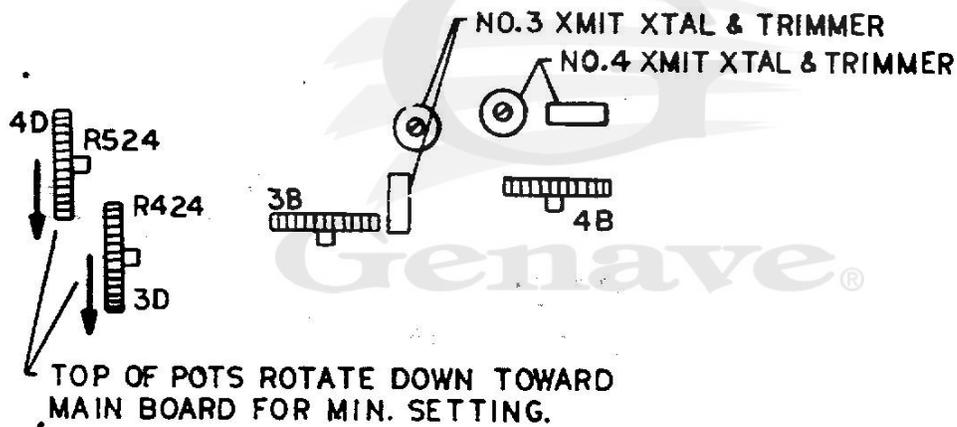
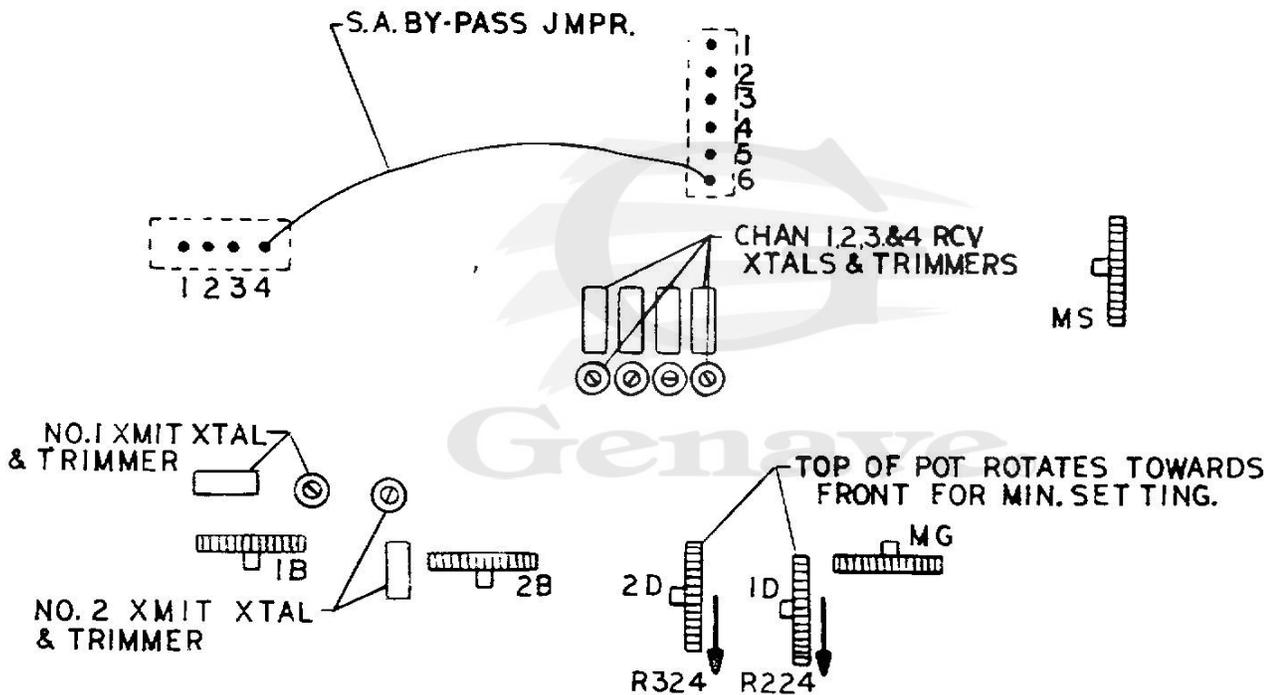

Figure 4-8. Modulator Board (Rear View)
Figure 4-10. Main PC board (Top View)
2. Install RECEIVE crystal(s), Y101 to Y104, in appropriate sockets in forward, center section of the main PC board. Refer to Main Board Component Location diagram (Figure 4-10) for crystal locations.
3. Install TRANSMIT crystal(s), Y201 - Y301, in appropriate sockets in left front quadrant of main PC board. The crystal(s) for channels 3 and 4, Y401 and Y501, (if used) are located on vertical modulator board in GMT-425L only. Refer to Main Board Component Location diagram (Figure 4-10) and to Modulator Board Component Location diagram (Figure 4-8) for TRANSMIT crystal locations.